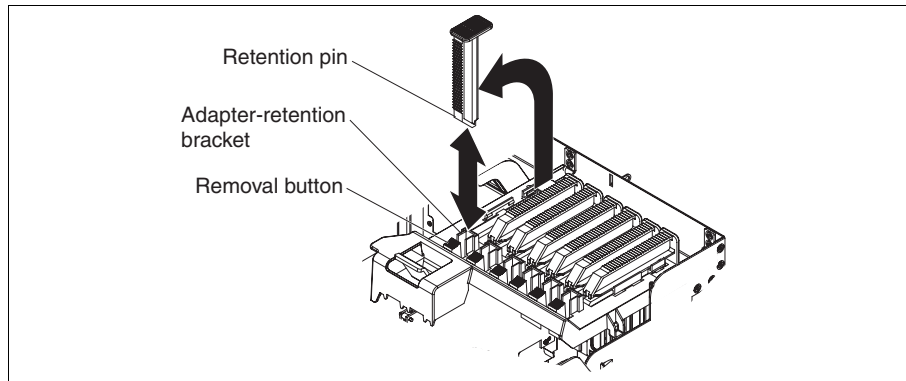

Figure 3-29 Mounting adapters by the retention pin
7. Secure the controller to the computer chassis with the bracket screw. Close the adapter-retention bracket, and use the retention pin as shown in Figure 3-29 on page 142